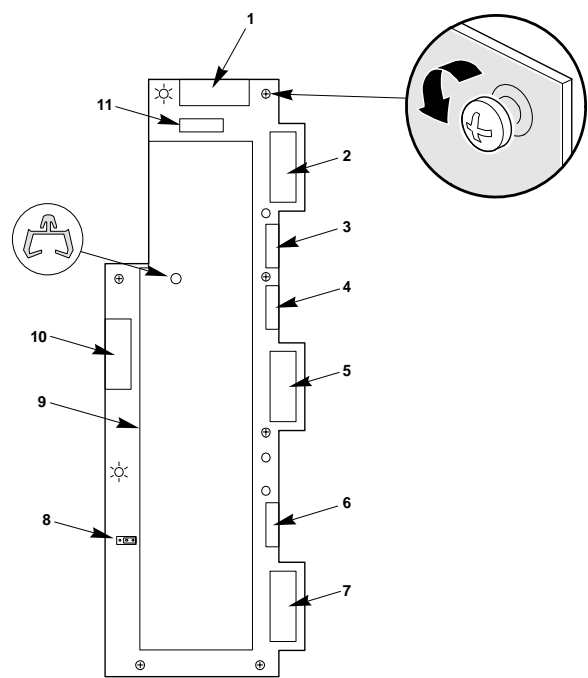

Figure 5-4. Power Share Backplane Connectors
6. If present, connect the auxiliary fan connector to the SCSI hot-docking backplane, and insert the fan cable in the cable clip on the power share backplane (shown in figure 5-4).
A set of new power distribution cables is supplied with the backplane and they should be connected according to the information given with figure 5-4 and as follows:
1. Connect each of the Power Supply output cables to their appropriate connectors as in Figure 5-4.